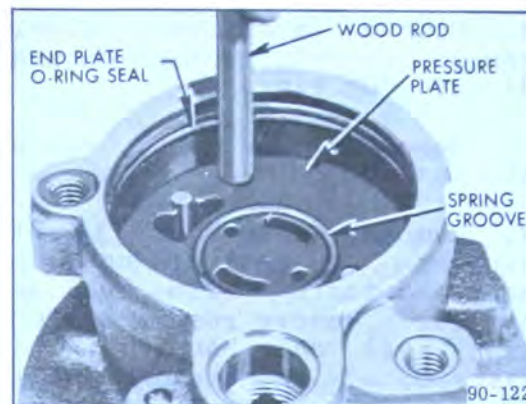

Figure 90-68 Seating Pressure Plate in Housing
10. Lubricate the outside diameter and chamfer of pressure plate with petroleum jelly and install on dowel pins with ported face toward rotor. Dowel pins fit into slots in plate that are nearest outside diameter of plate. Use a soft plastic or wood rod and lightly tap around outside diameter of pressure plate to seat it. See Figure 90-68. Pressure plate will travel about 1/16" to seat. Never press or hammer on the center of pressure plate as this will
11. Install new end plate "O" ring seal in groove in bore of housing. Be sure not to install it in end plate retaining ring groove which is first groove from rear of housing. See Figure 90-68.